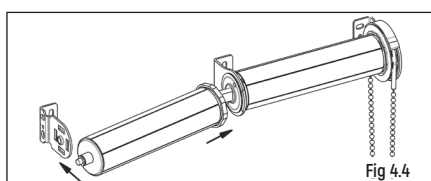

Fig 4.4
4. Install slave blind by inserting the female drive into the square male drive. Complete blind installation by pushing in the retractable pin with a flat screwdriver and popping the pin into the bracket hole (**Fig 4.4**).